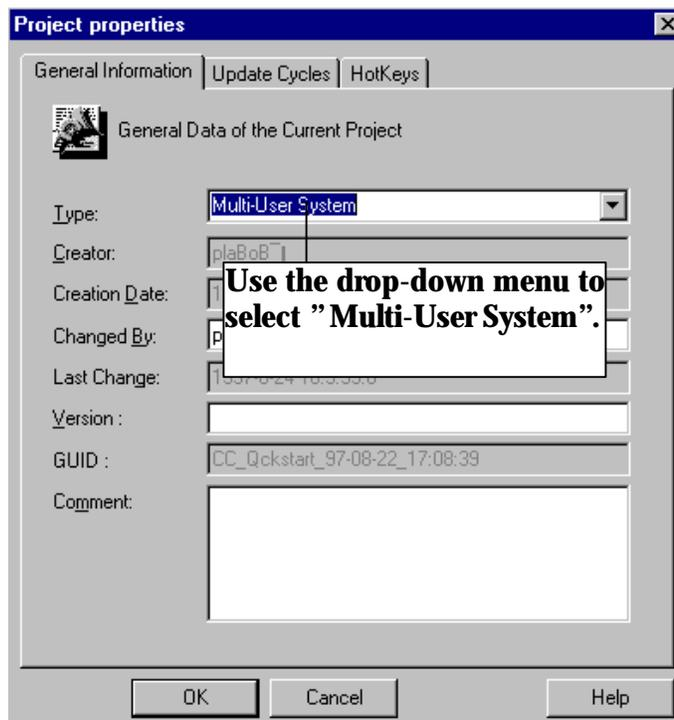

Figure 7.2 WinCC Project "QckStart"; Changing to a Multi-User System
2. The Project Properties dialog box pops up. In the General Information tab, select the drop down arrow next to the "Type" field, and select "Multi-User System". Click OK. Refer to Figure 7.2.